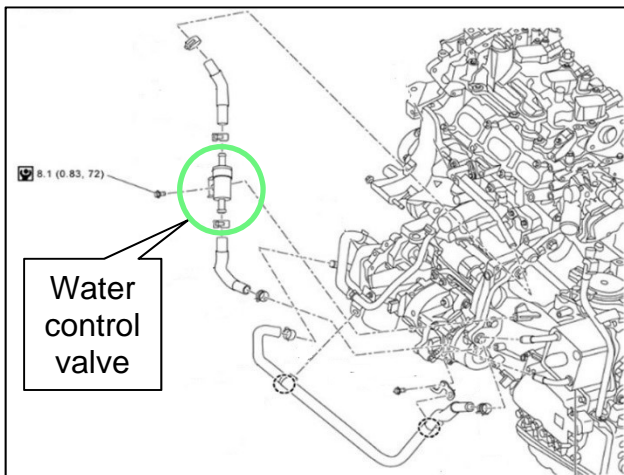

Figure 1
6. Place the transmission in Neutral (N).
- If the engine oil temperature exceeds the engine coolant temperature by a minimum of 22°F (12° C) replace the water control valve (Figure 1).